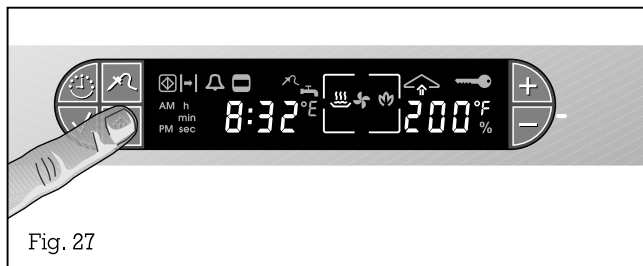

Fig. 27
- Press the ⬆ (Steaming / Condensing) key for approx. one second (Fig. 27).